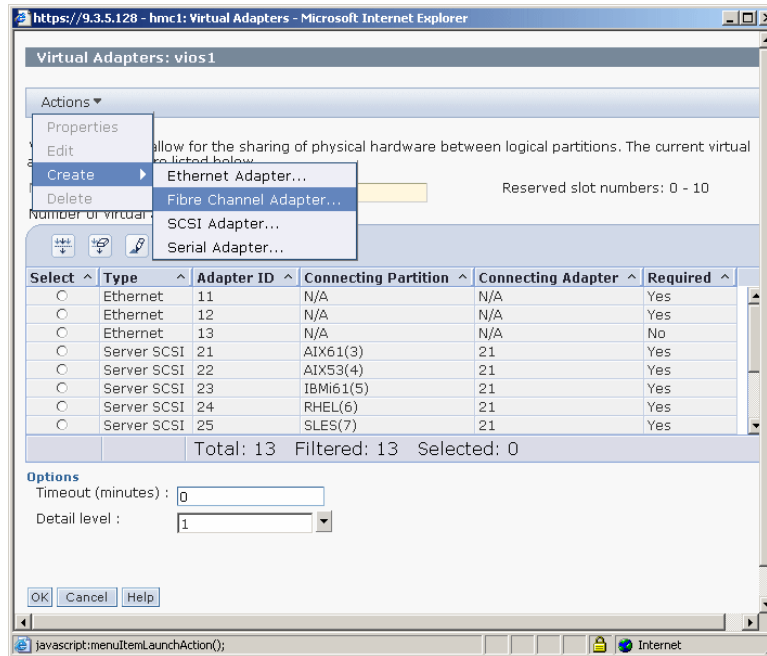

Figure 2-30 Create Fibre Channel server adapter
- c. To create a virtual Fibre Channel server adapter click on **Actions** → **Create** → **Fibre Channel Adapter...** as shown in Figure 2-30.